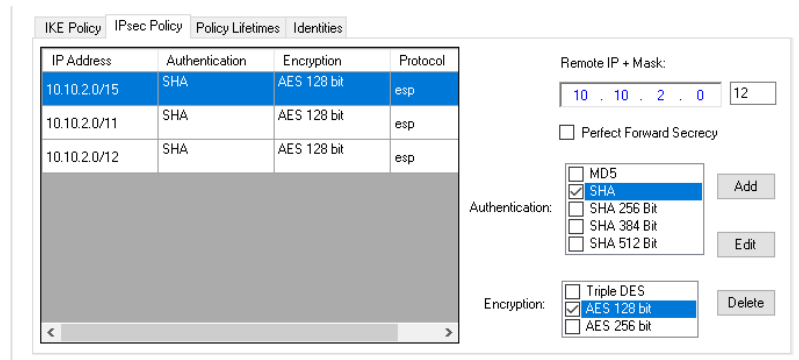
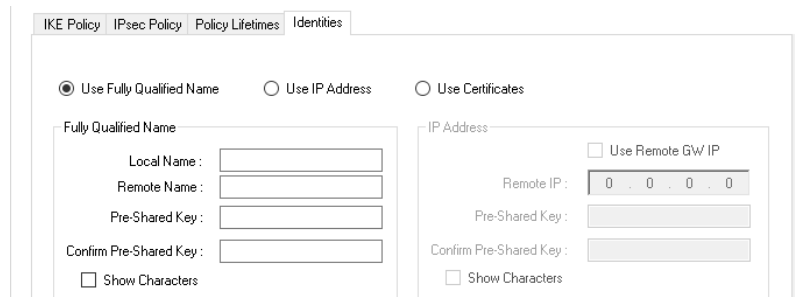

Figure 3-29 IPsec General Settings – IPsec Policy Tab
Figure 3-31 IPsec General Settings – Identities Tab
5. Enter the required settings in the IPsec General Settings screen tabs (Figure 3-29 through Figure 3-31).